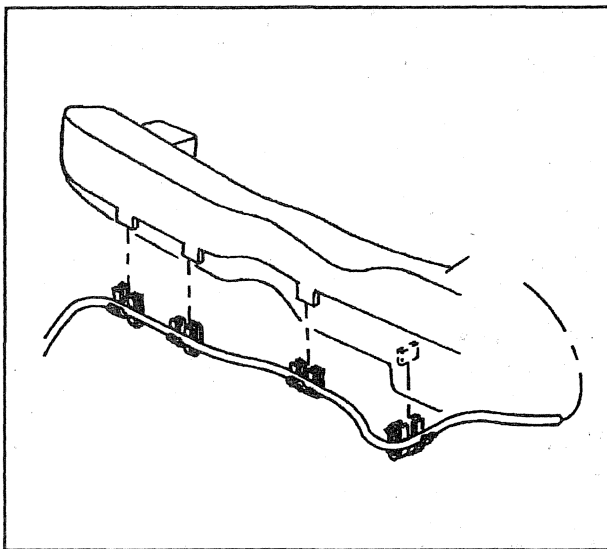

Figure 38—Antenna Extension Cable Routing to HVAC Duct
3. Extension cable from HVAC duct (figure 38).
2. Extension cable to HVAC duct (figure 38).